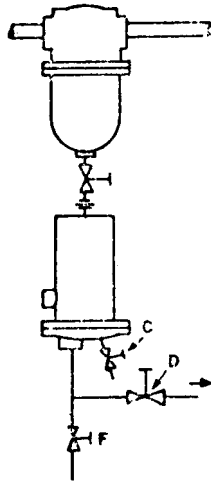

Fig. 2
- 4) On light loads a vent line is not required unless there is horizontal drain piping. Plug the side inlet and provide a single inlet pipe connection as shown in Fig. 2. The following conditions must be met if this procedure is followed: